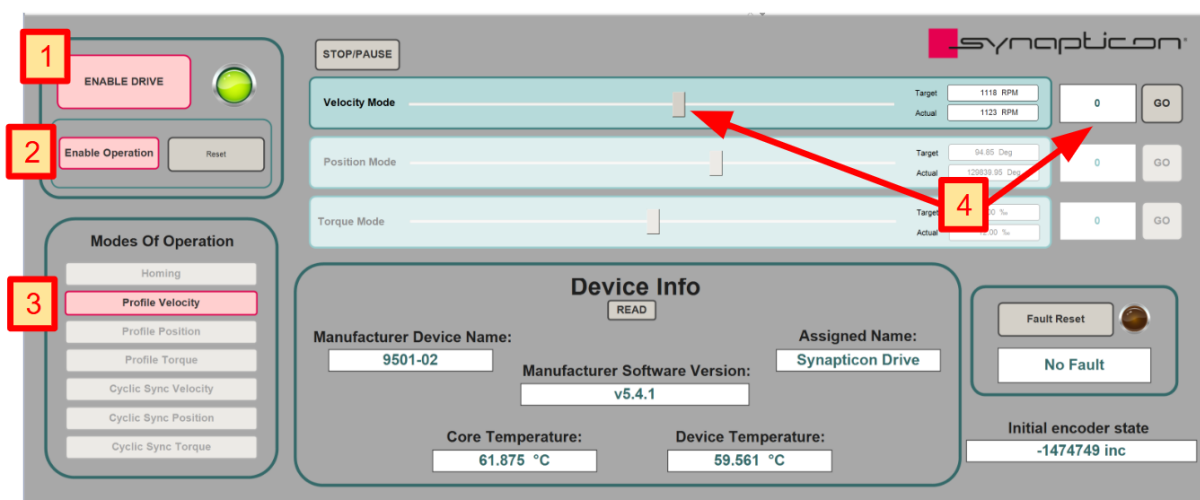

Figure 5.34 - Controlling the drive in profile velocity mode
5. Press the “GO” button. Additionally, there is an in-built function that can drive a motor by ramping it repeatedly in a positive and negative direction. For clarification, refer to Figure 5.34.